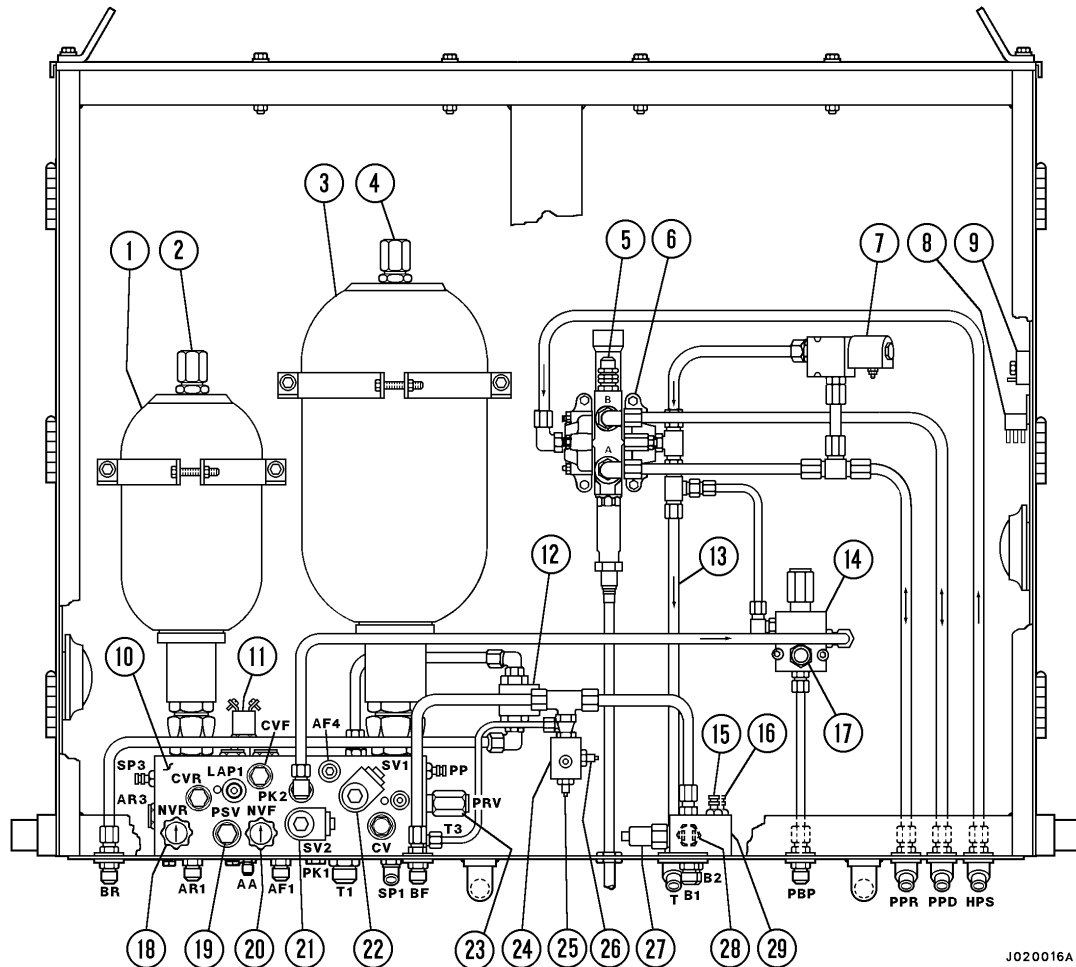

FIGURE 4-1. HYDRAULIC BRAKE CABINET
6. Close inlet valve (4, Figure 4-1). Leave outlet valves (3) open for five minutes in order to allow the pressures in the suspensions to equalize.